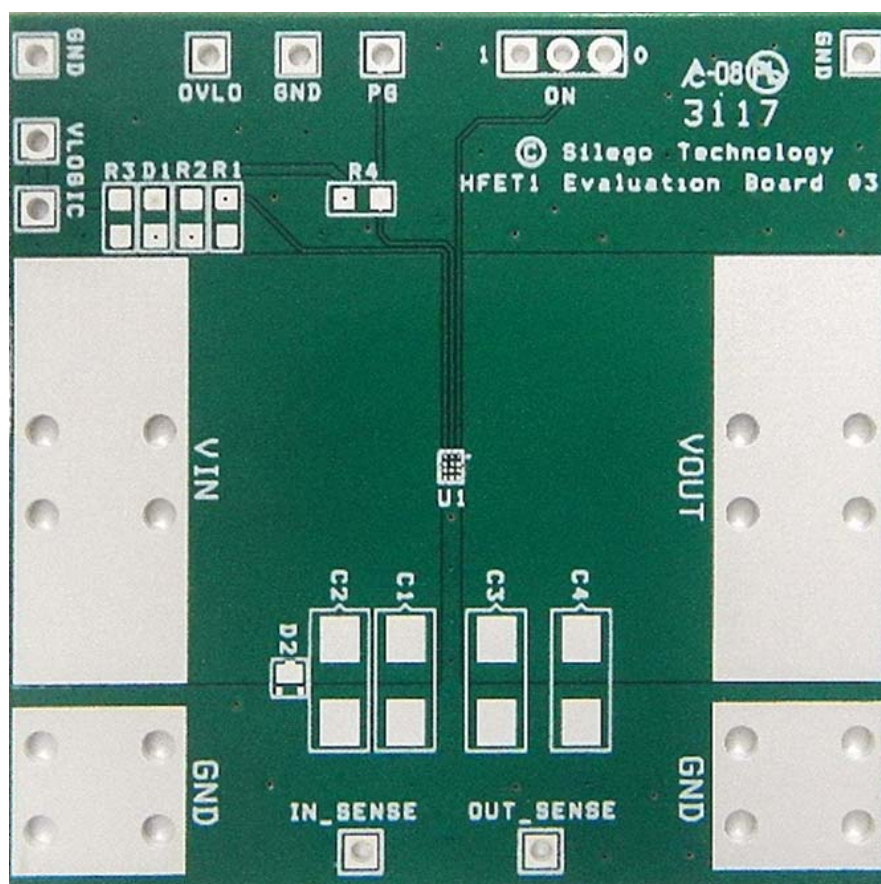

Figure 30. SLG59H1313C Evaluation Board
1. Since the IN and OUT pins dissipate most of the heat generated during high-load current operation, it is highly recommended to make power traces as short, direct, and wide as possible. A good practice is to make power traces with an absolute minimum widths of 15 mils (0.381 mm) per Ampere. A representative layout, shown in Figure 30, illustrates proper techniques for heat to transfer as efficiently as possible out of the device;
A HFET1 Evaluation Board for SLG59H1313C is designed according to the statements above and is illustrated on Figure 30. Please note that evaluation board has IN_Sense and OUT_Sense pads. They cannot carry high currents and dedicated only for RDS(on) evaluation.